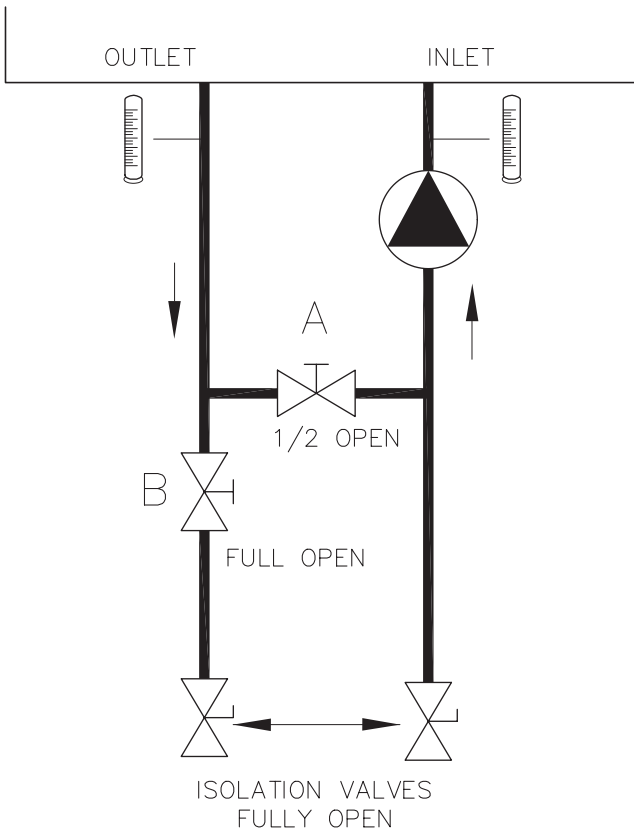

Fig. 14: "H" Bypass Setting
Heaters operated with an inlet temperature of less than 120°F (49°C) MUST have a manual bypass (see Fig. 14) or an approved low-temperature operation system to prevent problems with condensation. This piping is like a primary/secondary boiler installation with a bypass acting as the secondary boiler piping. Raypak strongly recommends that thermometer(s) be placed into the heater piping next to the in/out header to facilitate temperature adjustment. Inlet water temperatures below 120°F (49°C) can excessively cool the products of combustion, resulting in collection of condensate in the heat exchanger area beyond the capacity of the condensate evaporation system.
3. With the heater operating at 100% firing rate, set Valve A (the bypass) to ½ open position, and Valve B to fully open position. See Fig. 14.